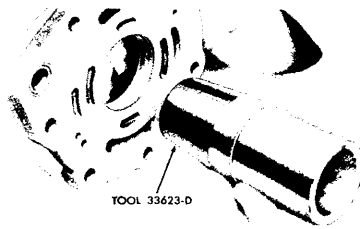

FIG. 32—Installing Rotor Shaft in Cover G1211
3. Install the rotor shaft in the cover as shown in Fig. 32 to prevent damage to the seal.
7. Place the tool shown in Fig. 32 in the rotor shaft to prevent damage to the oil seal, then install the housing on the cover. Install and torque the cap screws to 15-20-ft-lbs.